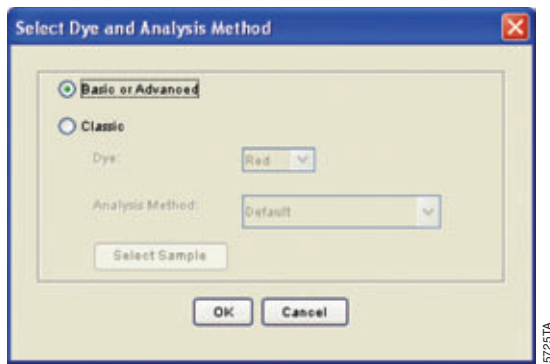

Figure 5. The Select Dye and Analysis Method window.
4. Select "Basic or Advanced" (Figure 5). The type of analysis method selected must match the type of analysis method created earlier. Select "OK".